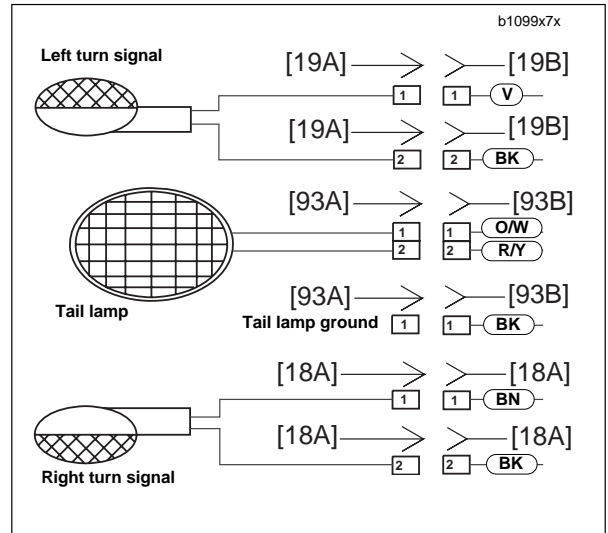

Figure 7-59. Rear Turn Signal Connections
2. See Figure 7-59. Disconnect bullet connectors [18] & [19] on turn signal wires.